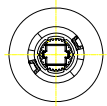

Fig .10
B. See Fig.10. This is the recommended position. It is also the setting position by the manufacturer. When the Rotational Limit Stop on this position, the mixing water temperature is 38°C (approximate).